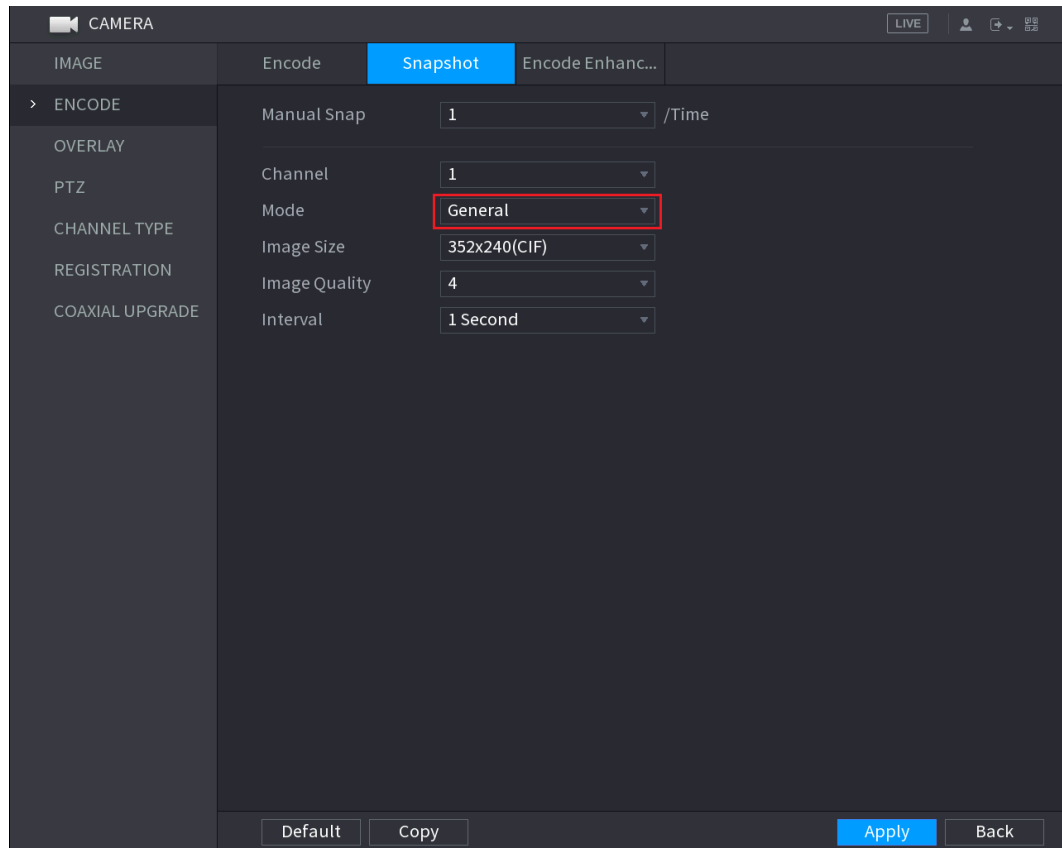

Figure 5-96
Step 5 In the **Mode** list, select **General**, and then configure other parameters. See Figure 5-96.